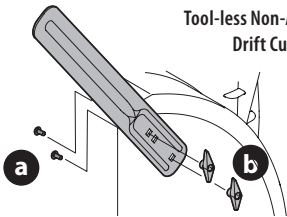

Figure 44
1. Remove carriage bolts (a) and wing nuts (b) shipped with the drift cutters (Figure 44).
- Using the carriage bolts and wing nuts removed in Step 1, secure the drift cutters to the auger housing as shown in Figure 44.